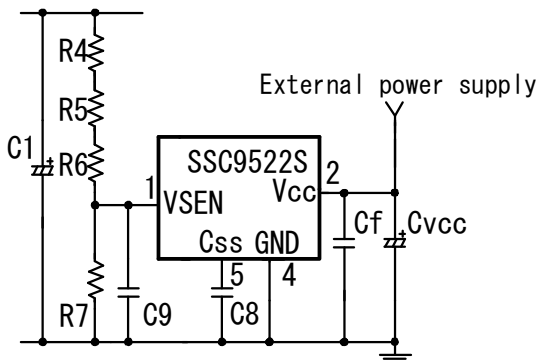

Figure 7-4 V_{CC} peripheral circuit
V_{CC} terminal voltage is provided with an external power supply as shown in Figure 7-4.
- In Figure 7-4, the approximate value, t_{ST1} , is as follows.